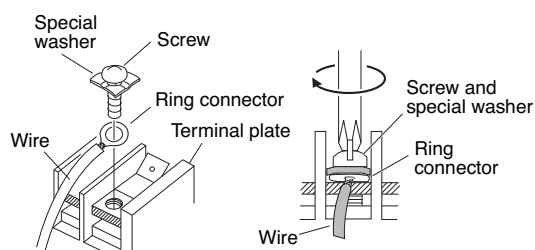

Fig. 24f
- (4) Place the ring connector wire, and replace and tighten the removed terminal screw using a screwdriver. (Fig. 24f)